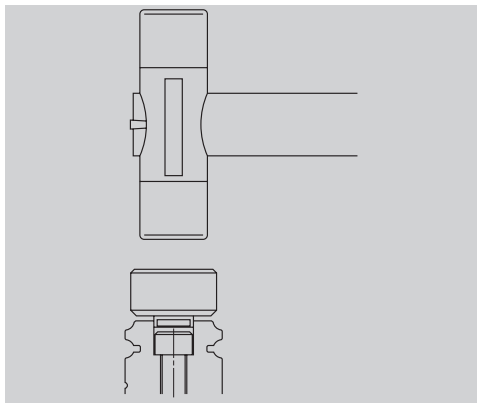

Fig. 6.5
- To insert a cap into the rail bolt hole, use a flat tool (Fig. 6.5). Pound the cap gradually until its height becomes flush with the rail top face.